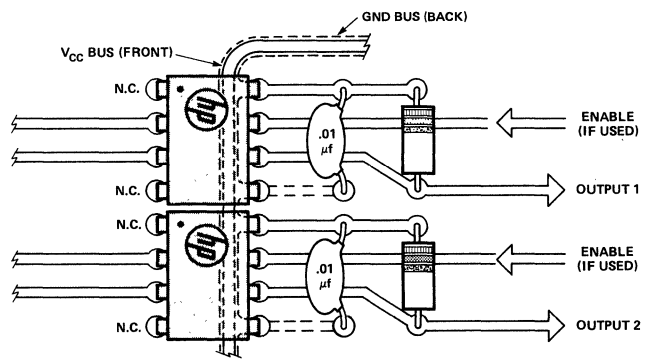

Figure 15. Recommended Printed Circuit Board Layout.
- By-passing of the power supply line is required, with a 0.01 μF ceramic disc capacitor adjacent to each isolator as illustrated in Figure 15. The power supply bus for the isolator(s) should be separate from the bus for any active loads, otherwise a larger value of bypass capacitor (up to 0.1 μF) may be needed to suppress regenerative feedback via the power supply.